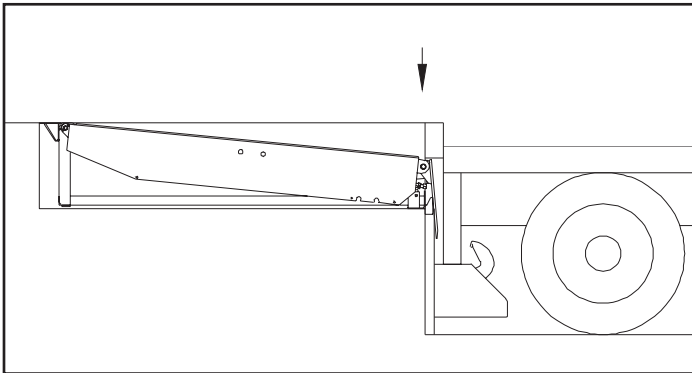

FIGURE 7 - END LOAD OPERATION
2. Release RAISE button and as platform is lowering pull and hold the Safety Leg Chain, if equipped. The leveler will lower to the below dock position with the lip positioned between the face of the loading dock and the truck/trailer bed. See figure 7 & 8.